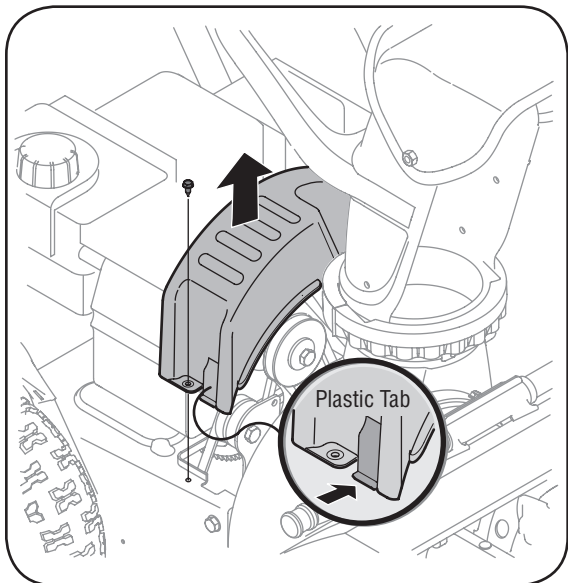

Figure 11
1. Remove the plastic belt cover on the front of the engine by removing the self-tapping screw and pressing the plastic tabs to release the belt cover. See Figure 11
3. Remove the self-tapping screw shown in Figure 11, and press the plastic tabs to release the belt cover. Pull the belt cover up and out from around the engine and chute assembly. Set it aside and save.